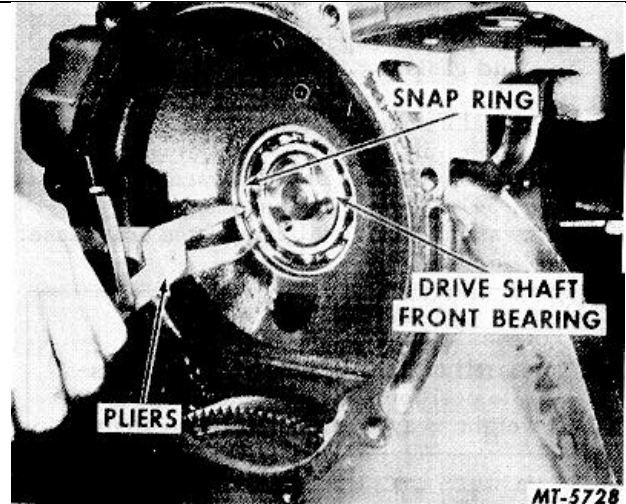

Fig. 60 Removing Injection Pump Drive Shaft Front Bearing Snap Ring.
53. Remove injection pump drive shaft front bearing snap ring (Figure 60). With a hammer and brass drift tap drive shaft and bearing assembly out of front cover.